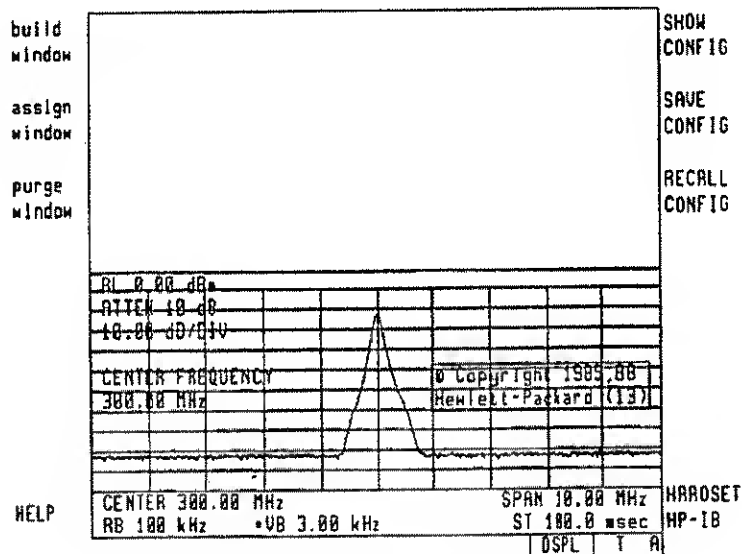

Figure 2-22. Assigning the First Window
1. Press **EXECUTE**. The trace output from that measurement instrument should appear in the window as in Figure 2-22.